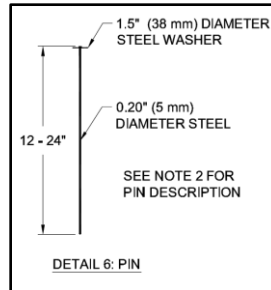

**Figure 4: Initial Channel (IC) Trench Alignment**
3. Lay the ARMORMAX panel on the downstream side of the IC trench (Figure 4). Place the panel edge in the IC trench, ensuring full coverage along the bottom of the entire IC trench with the ARMORMAX (Figure 5). Secure ARMORMAX with pins and anchors in the IC trench (Figure 5). Pins should be made of steel with a 0.20 in (5 mm) minimum diameter, having a 1.5 in (38mm) diameter washer at the head, and a length between 12 and 24 in (300-600 mm) with sufficient ground penetration to resist pullout.